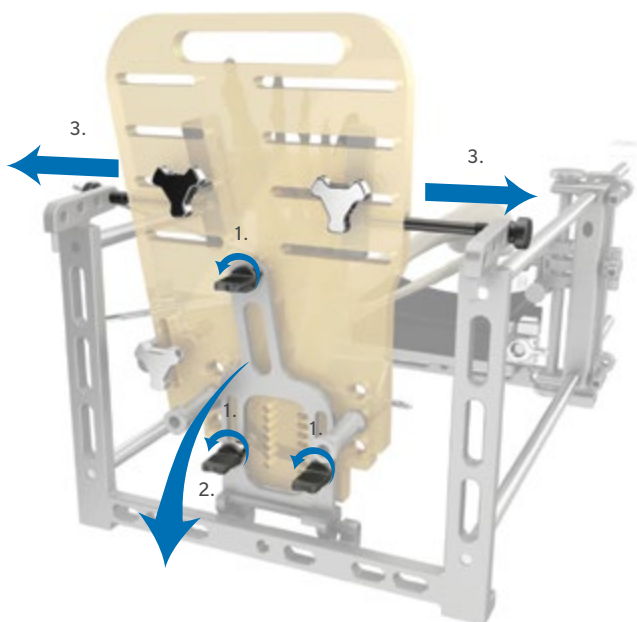

Fig. 80
1. Remove the three 1/4 Turn Fasteners (Fig. 80).